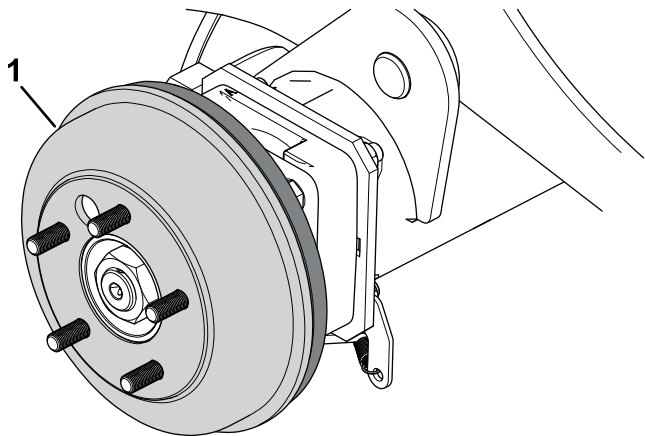

Figure 75
4. Remove the brake drums (Figure 75) by hand.